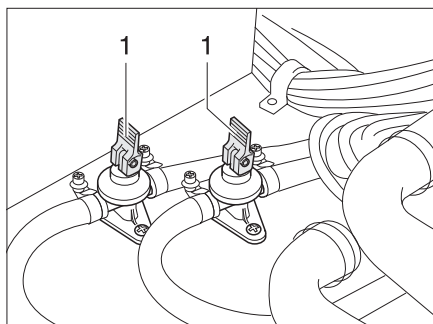

Fig. 132 Drain cocks
- Close the drain cocks. Position the rocking levers (Bild 132,1) horizontally.
- Open the drain cocks (Bild 132). Position the rocking levers (Bild 132,1) vertically. The boiler is drained to the outside using the drain cocks.